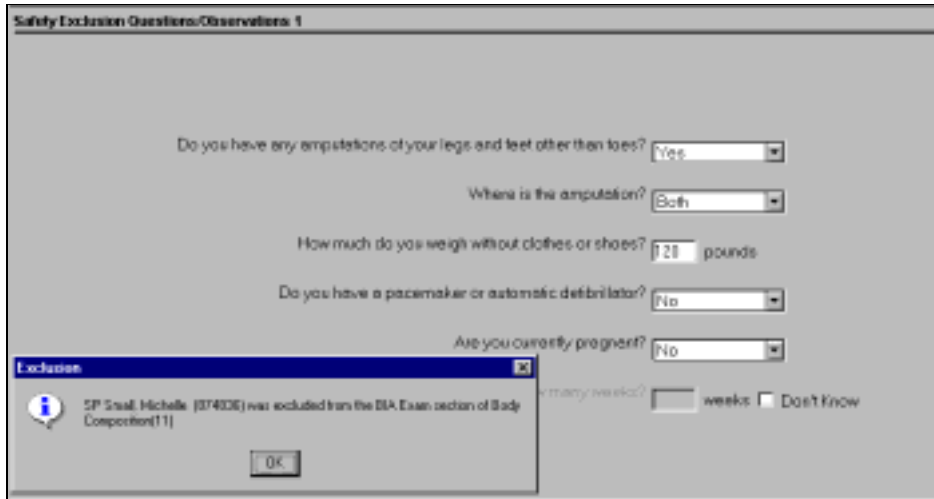

Figure 4-4. Shared exclusion questions (amputations 3)
- The system will display a message that the SP is excluded from the BIA section of Body Composition. See Figure 4-4.